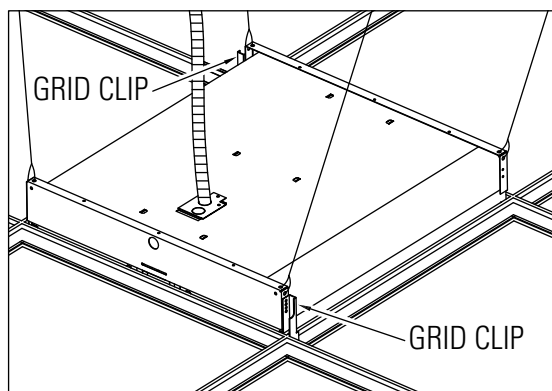

Figure 2
3. Provide power feed wires to fixture per NEC & local codes and re-install ACCESS-PLATE. (Fig. 2)
5. Install GRID CLIPS at opposite corners of fixture. (Fig. 2)